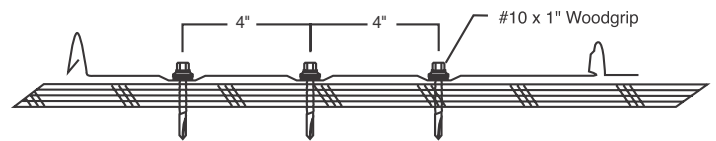

Figure 4
A. Panels can be fastened along the eave with a #10 x 1" painted neoprene woodgrip fastener. Fasten along a line parallel to the eave edge and 3" up from the eave edge. The fasteners can be spaced 4" apart in the minor rib striations as shown in Figure 4.